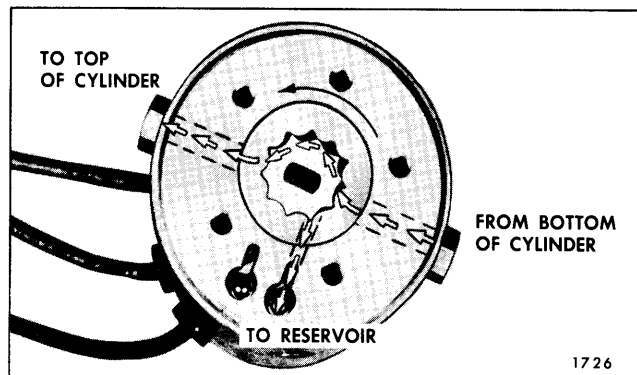

Fig. 13-59—Operation Of Pump To Lower Top
2. Lowering the Top. When the green motor lead is energized the motor drive shaft turns the rotors counterclockwise as indicated by the large arrow in Figure 13-59. The action of the pump rotors forces the fluid under pressure to